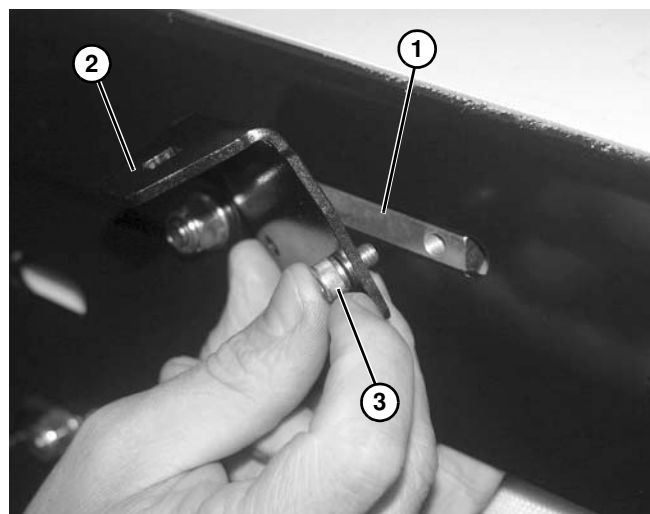

Figure 53
4. While holding tee bar (**Figure 53, item 1**) in position from inside the conveyor frame, loosely install mounting bracket (**Figure 53, item 2**) with screws (**Figure 53, item 3**).